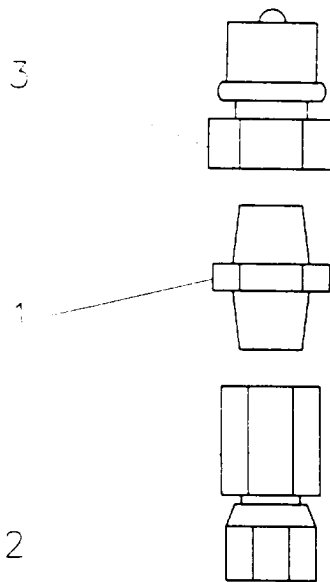

Figure 4-12. Bradley Engine Compartment Extinguisher Adapter Repair
- a. Holding nipple (1) securely, unscrew quick disconnect plug (3) and discard.
- b. Wrap nipple threads with one layer of antiseize tape (item 3, Section II, Appendix F).
- c. Holding nipple (1) securely, screw new quick disconnect plug (3) on nipple and tighten.
**4-19.2 Bradley Engine Compartment Extinguisher Adapter Repair. (Refer to Figure 4-12)**
- a. Holding nipple (1) securely, unscrew swivel adapter (2) from nipple and set aside for disposal.
- b. Wrap nipple (1) threads with one layer of antiseize tape (item 3, Section II, Appendix F).